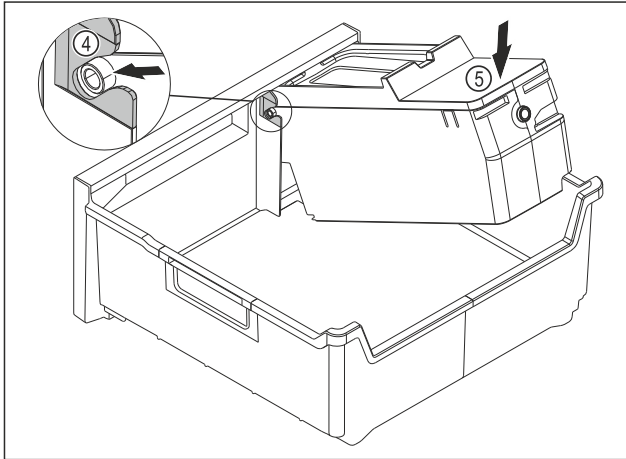

Fig. 169
- Installing the EasyTwist-Ice body: Insert the axes of the EasyTwist-Ice body into the guides *Fig. 169 (4).*
- Press down the EasyTwist-Ice body *Fig. 169 (5)* at the rear.